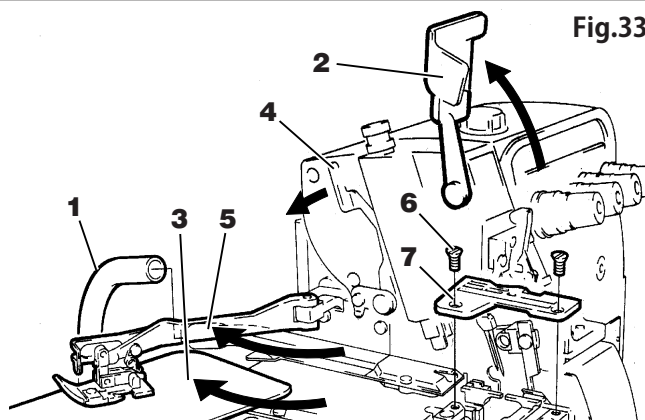
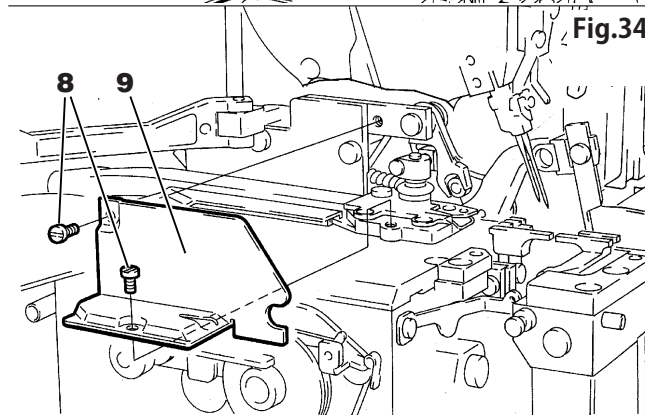

Fig.33
Fig.34
- 10.** Attach the fabric guide (see Fig.34 on the previous page). Place the needle breakage shield, the cloth plate, the presser foot and the hose in each original position (see Fig.33).